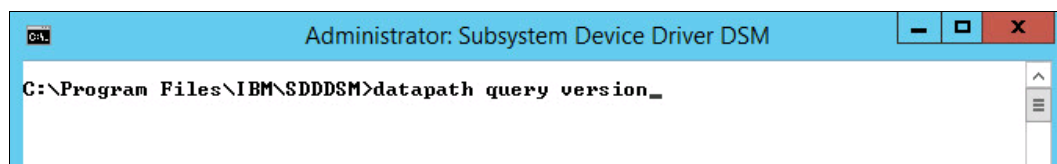

Figure 5-8 Datapath query version
5. A command prompt opens. Run **datapath query version** to determine the version that is installed. See Figure 5-8.